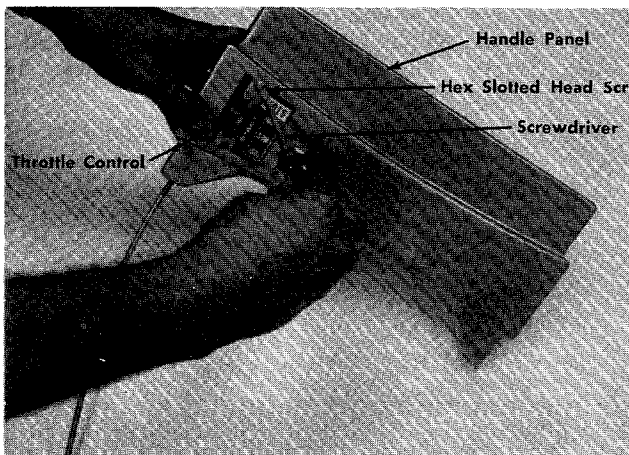

FIGURE 9. THROTTLE ASSEMBLY
1. Place the throttle control in handle panel and secure with two hex slotted head screws. See figure 9.